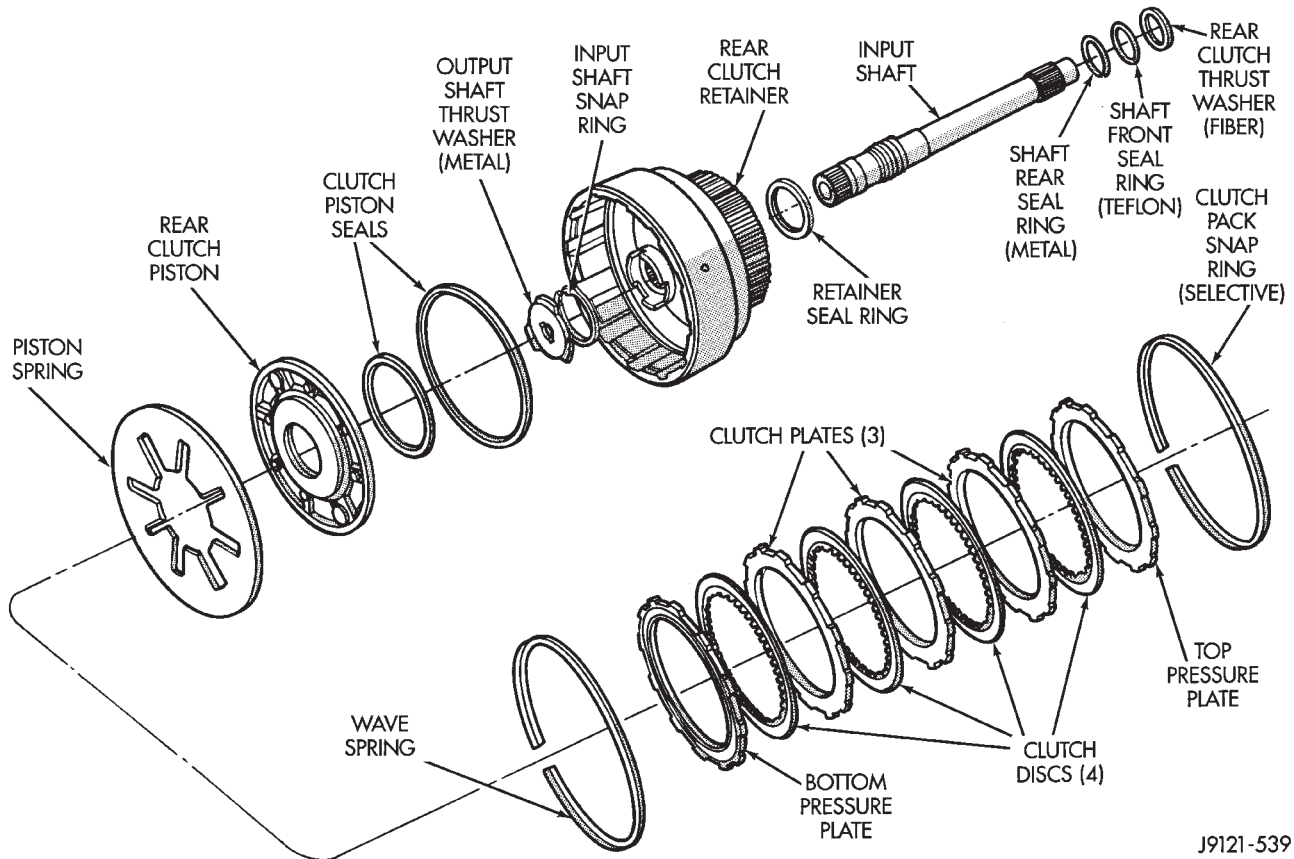
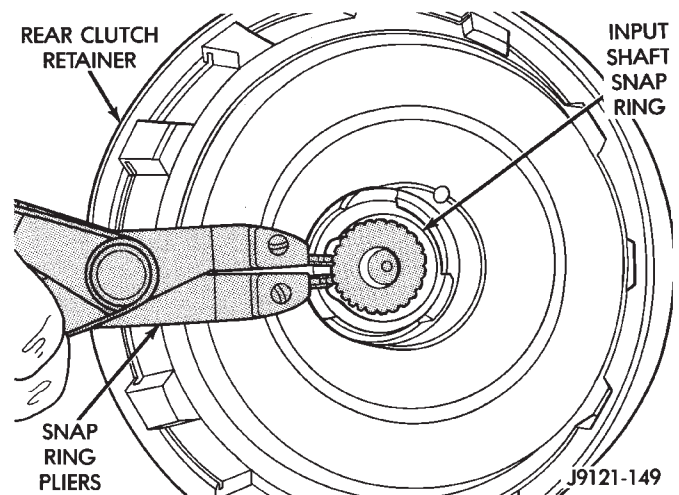
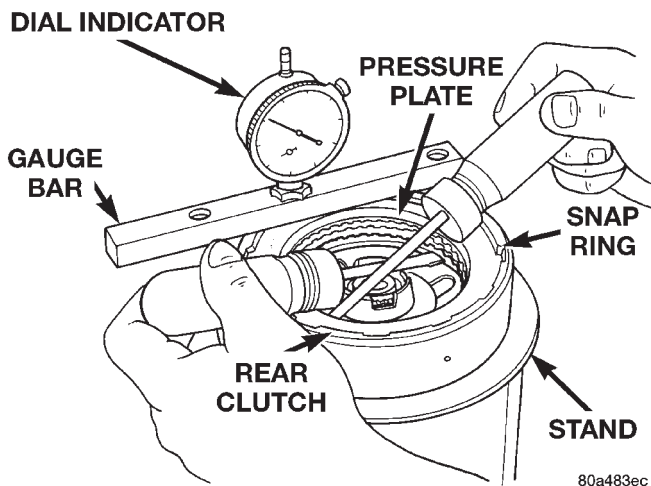

Fig. 140 Rear Clutch Components
Fig. 141 Removing/Installing Input Shaft Snap-Ring
Fig. 146 Checking Rear Clutch Pack Clearance
(1) Remove thrust washer from forward side of clutch retainer.
(2) Remove input shaft front/rear seal rings.
(3) Remove selective clutch pack snap ring (Fig. 140).
(4) Remove top pressure plate, clutch discs, steel plates, bottom pressure plate and wave snap ring and wave spring (Fig. 140).
(5) Remove clutch piston with rotating motion.
(6) Remove and discard piston seals.
(7) Remove input shaft snap-ring (Fig. 141). It may be necessary to press the input shaft in slightly to relieve tension on the snap-ring.
(8) Press input shaft out of retainer with shop press and suitable size press tool. Use a suitably sized press tool to support the retainer as close to the input shaft as possible.
(3) Lubricate splined end of input shaft and clutch retainer with transmission fluid. Then press input shaft into retainer. Use a suitably sized press tool to support retainer as close to input shaft as possible.
(4) Install input shaft snap-ring (Fig. 141).
(5) Invert retainer and press input shaft in opposite direction until snap-ring is seated.
(11) Install bottom pressure plate (Fig. 140). Ridged side of plate faces downward (toward piston) and flat side toward clutch pack.
(12) Install first clutch disc in retainer on top of bottom pressure plate. Then install a clutch plate followed by a clutch disc until entire clutch pack is installed (4 discs and 3 plates are required) (Fig. 140).
(13) Install top pressure plate.
(14) Install selective snap ring. Be sure snap ring is fully seated in retainer groove.
(15) Using a suitable gauge bar and dial indicator, measure clutch pack clearance (Fig. 146).
(a) Position gauge bar across the clutch drum with the dial indicator pointer on the pressure plate (Fig. 146).